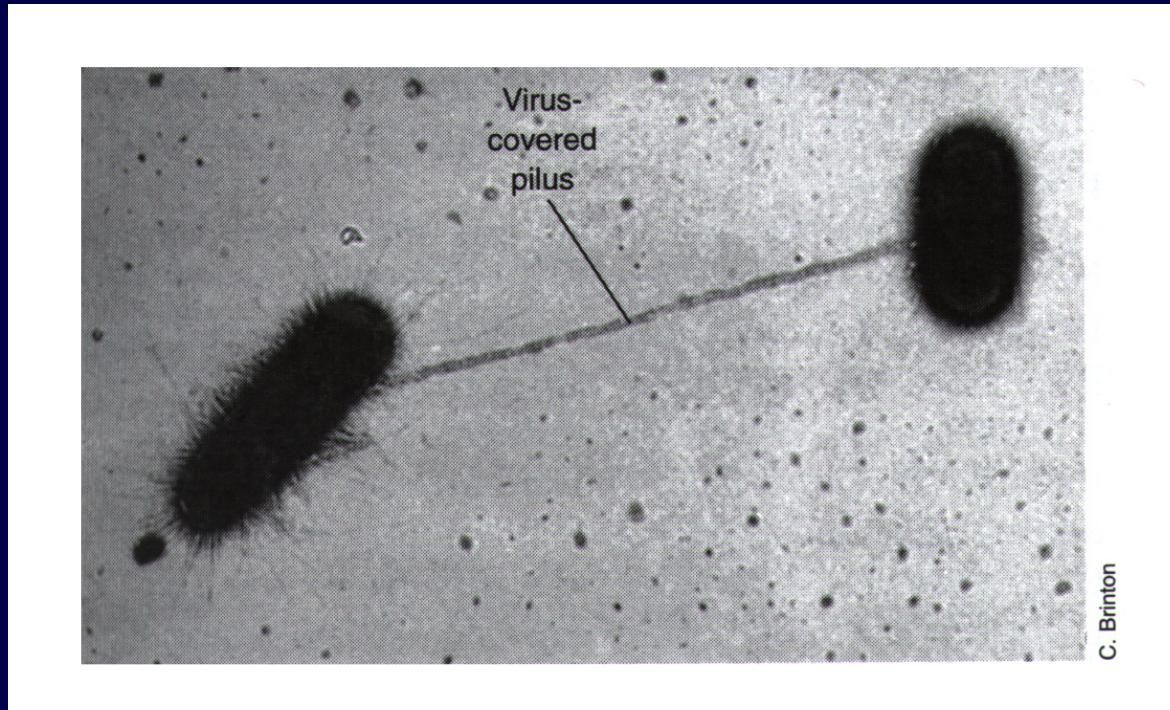

Figure 9: Conjugation in *E. coli* (from [5]).
- *E. coli* occasionally engage in a type of “sex” called “conjugation” (Figure 9)